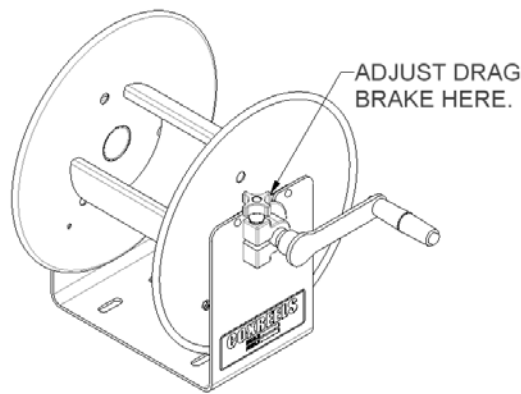

FIGURE 2.0
- Adjust the drag brake. Turn clockwise to add tension and counter-clockwise to decrease tension. See figure 2.0